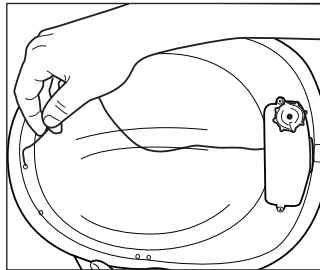

Figure 9
- Run the wire from the battery unit to the front of the helmet (Figure 9).